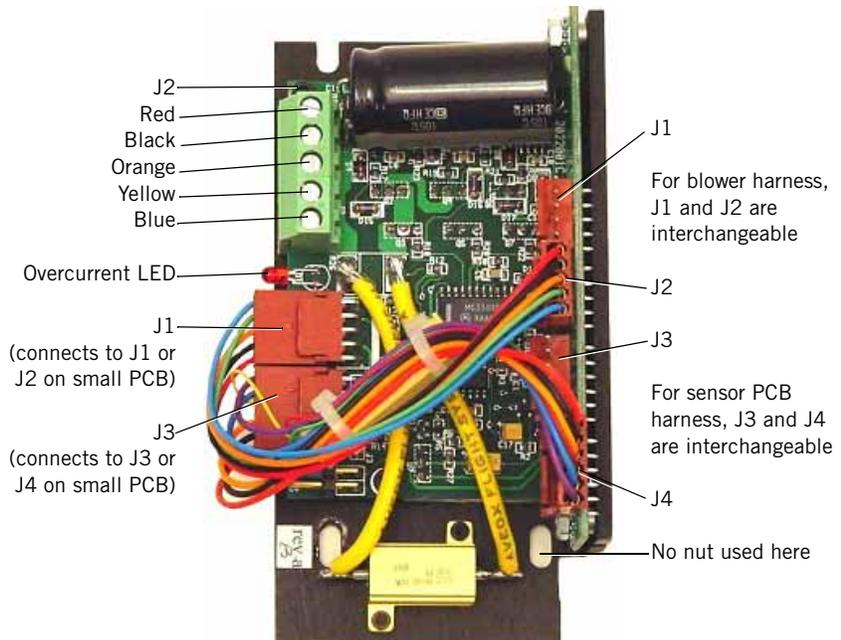
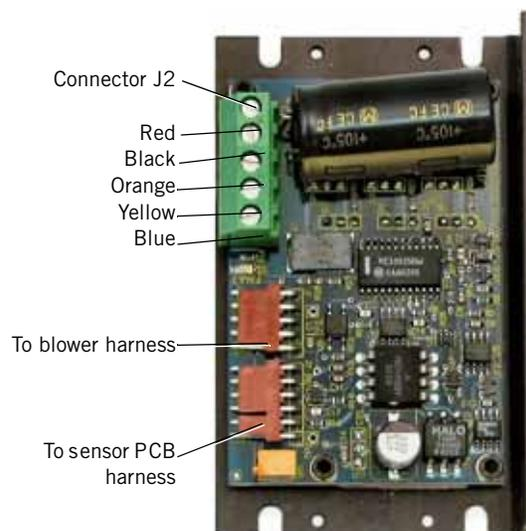

Figure 9-85: Original Blower Motor Controller PCB
Figure 9-86: Updated Blower Motor Controller PCB
Follow these steps to remove the original blower motor controller PCB from the bottom enclosure (Figure 9-85). Reverse to install.
Follow these steps to remove the updated blower motor controller PCB from the bottom enclosure (Figure 9-86). Reverse to install.
11. Loosen the screws securing the orange, yellow, and blue wires from the blower harness to the green terminal block connector J2 on the blower motor controller PCB. Disconnect the wires (Figure 9-85, Figure 9-86).
4. Connect the BLOWER J1 cable to connector J1 or J2 on the blower motor controller PCB (Figure 9-85).
5. Connect the blue, yellow and orange wires to the green terminal block connector J2 on the original blower motor controller PCB (Figure 9-85), or to connector J1 on the updated blower motor controller PCB (Figure 9-86).
10. Loosen the two top screws in connector J2 on the blower motor controller PCB. Disconnect and separate the black and red wires from the connector (Figure 9-85, Figure 9-86).